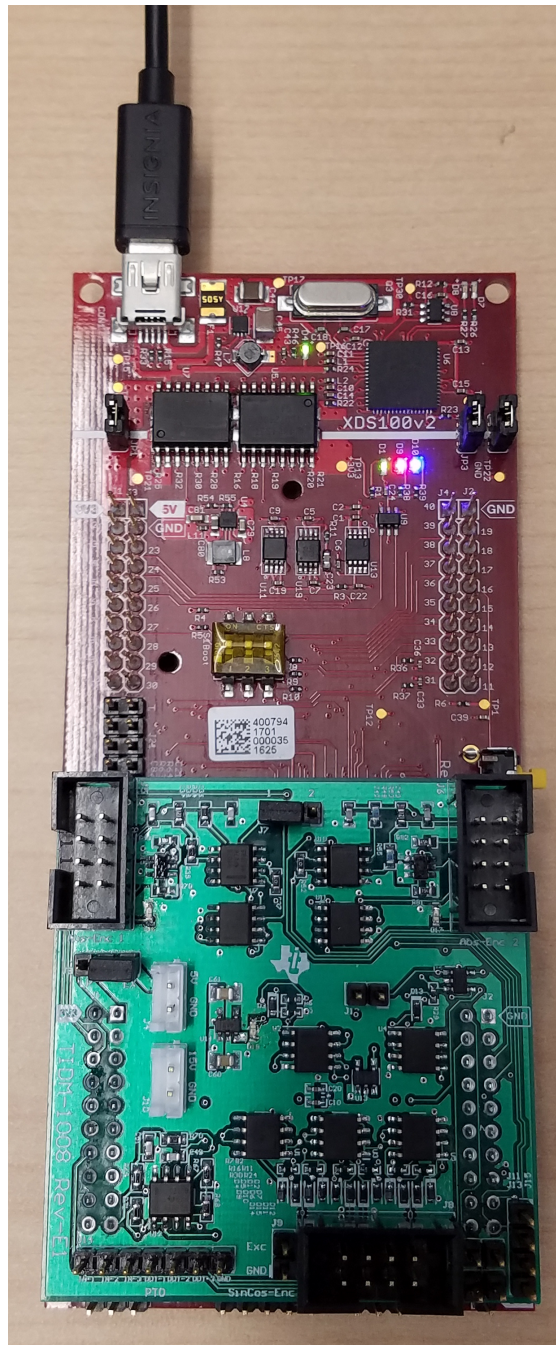

図 9. TIDM-1008 Board Connected to Site Two of LaunchPad™
2. Connect TIDM-1008 to the LaunchPad using the BoosterPack connector (J1-J3 and J4-J2). Make sure TIDM-1008 is connected to site two of the LaunchPad as shown in 図 9.